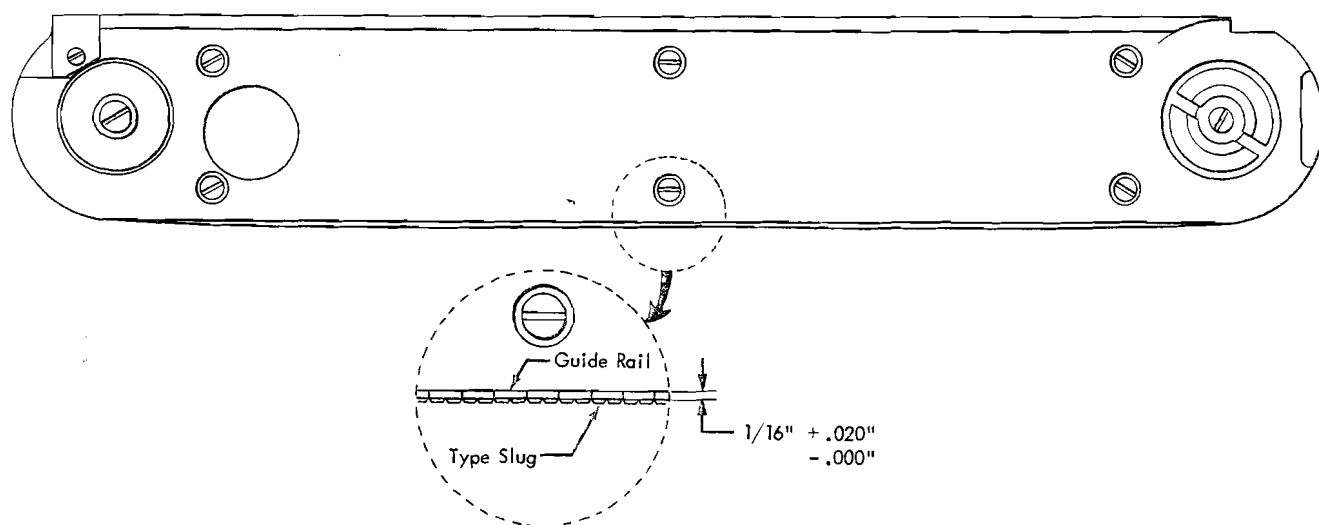

Figure 26. Correct Chain Tension
- d. The slugs in the center of the cartridge should hang out $\frac{1}{8}$ " ($+ .020$ ", $- .000$ "') to ensure correct chain tension (Figure 26).